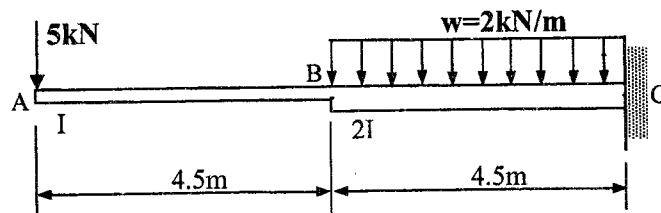

Figure 7
5. [b] For the stepped cantilever beam shown in Figure 7, determine the rotation at point B. Given $E = 200\text{GPa}$ and $I = 300 \times 10^6 \text{mm}^4$. Use Castigliano's Second Theorem. (10 marks)